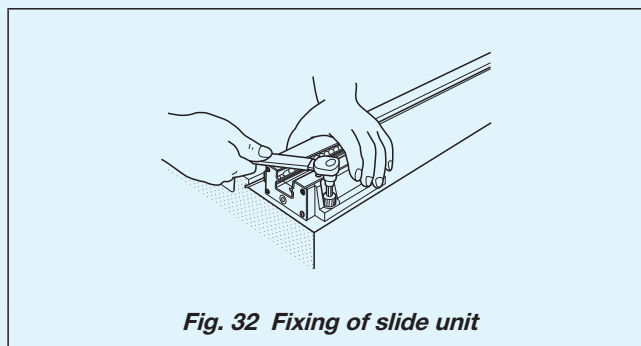

Fig. 32 Fixing of slide unit
- Align with the reference mounting surface of the Linear Way I and II slide units correctly, and fix them. (See Fig. 32)